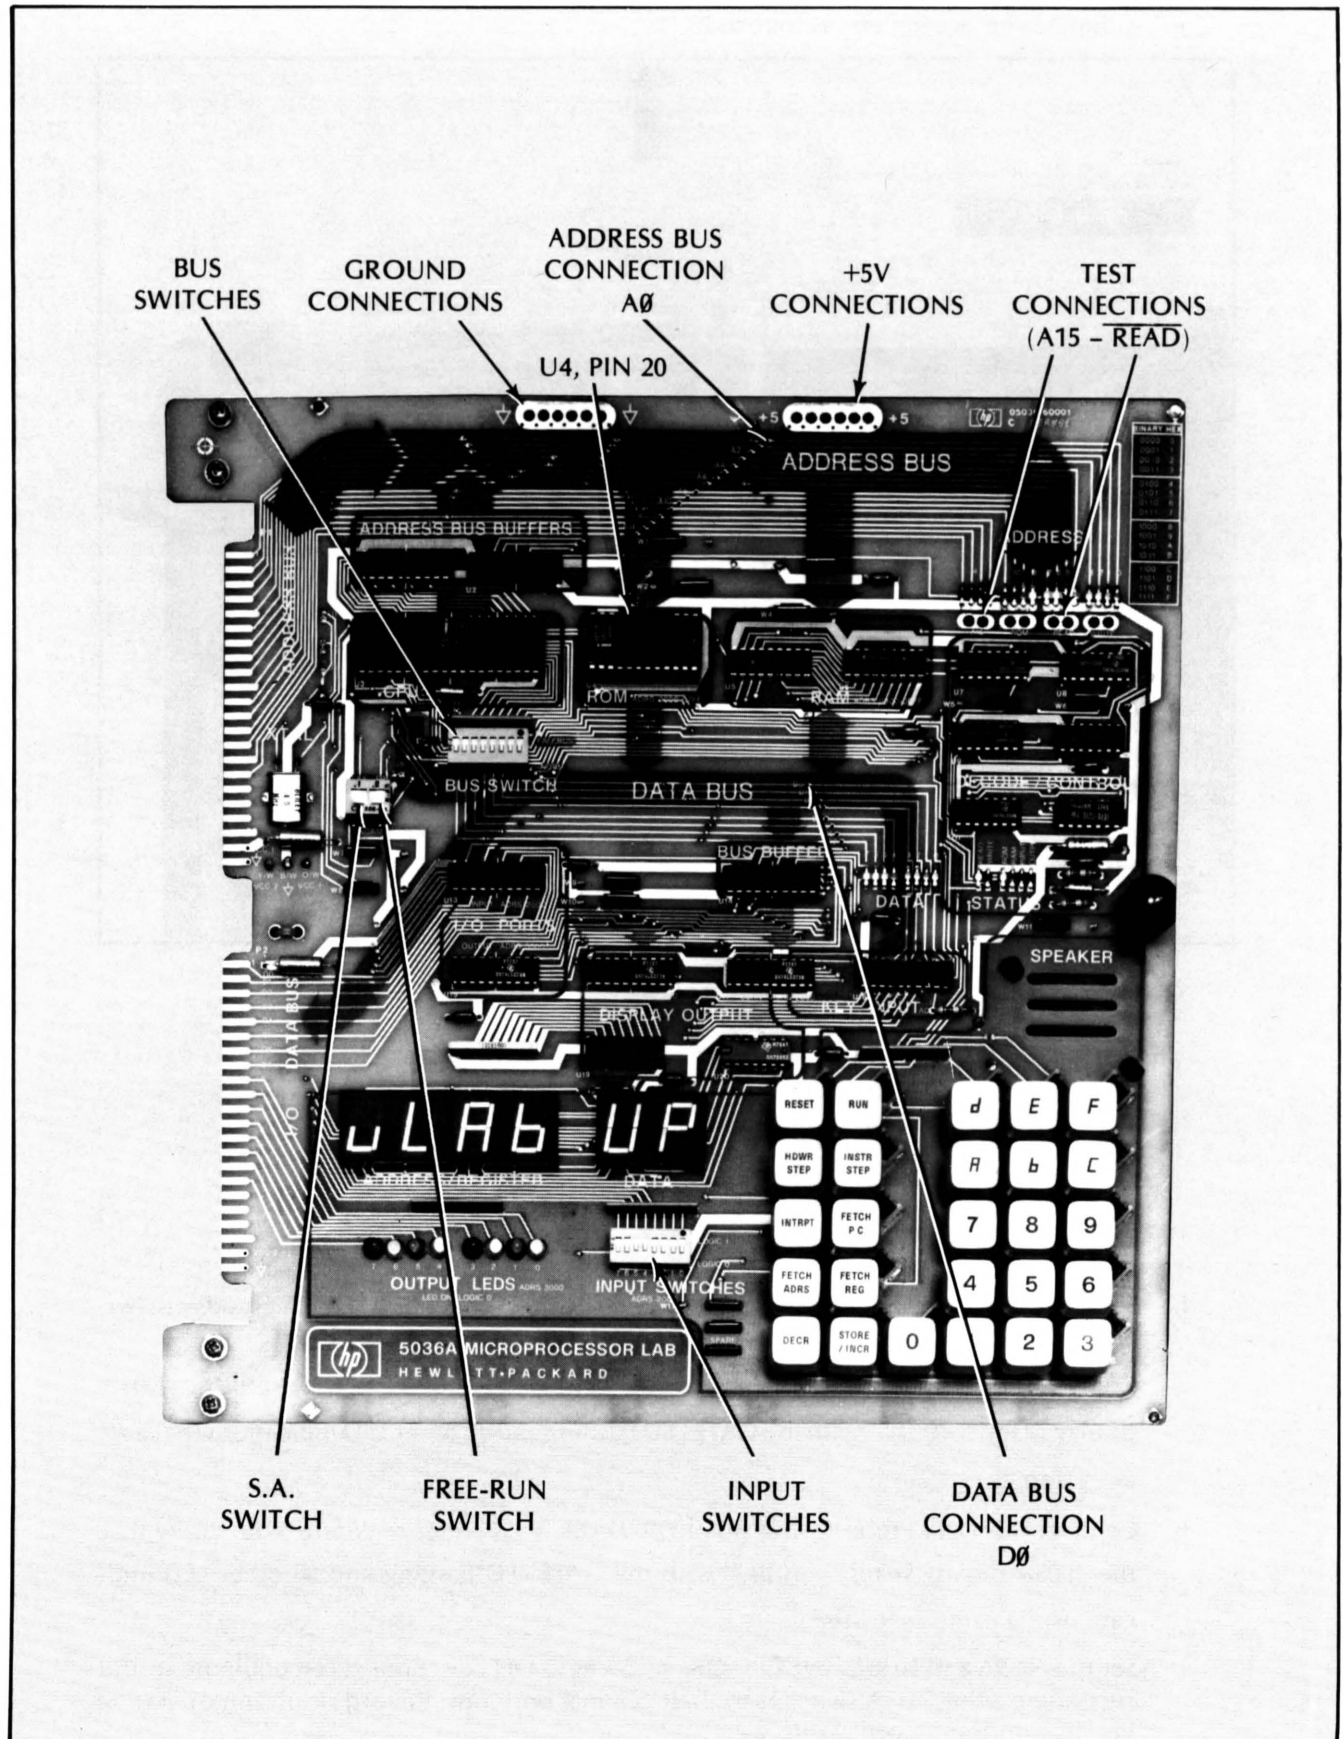

Figure 4-10. 5036A Test Switches and Connection Points
- Set the 5036A LINE ON-OFF switch to ON. Verify the ADDRESS/REGISTER and DATA LEDs read " 8888 88 " momentarily, then " 0L 88 0P ". Refer to Figure 4-10.
- h. Connect the Data Probe to a +5 volt test connection. Refer to *Figure 4-10*. Verify that the 5005A display reads "0001" with the GATE LED flashing and all other LED indications are the same as in step b.
- i. Connect the Data Probe to test point A0 (ADDRESS BUS). Refer to *Figure 4-10*. Verify that the 5005A display reads "UUUU" with the GATE LED flashing and all other LED indications are the same as in step b.
- g. Connect the Data Probe to a +5 volt test connection. Refer to *Figure 4-10*. Verify the 5005A display reads "7870" with the GATE LED flashing and all other LED indications the same as in step c.
- h. Connect the Data Probe to test point D0 (DATA BUS). Refer to *Figure 4-10*. Verify that the 5005A display reads "R66U" with the GATE LED flashing and all other LED indications the same as in step c.